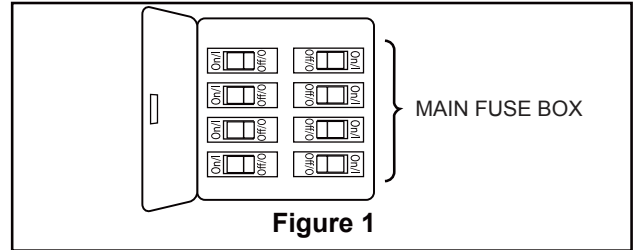

Figure 1
1. Remove the two screws and ceiling canopy in the hanger bracket and retain the screw for subsequent installation. (Figure 1)
To avoid possible fire or shock, be sure electricity is turned off at the main fuse box before hanging. (Figure 1)
To avoid possible electrical shock, be sure electricity is turned off at the main fuse box before wiring. (Figure 1)